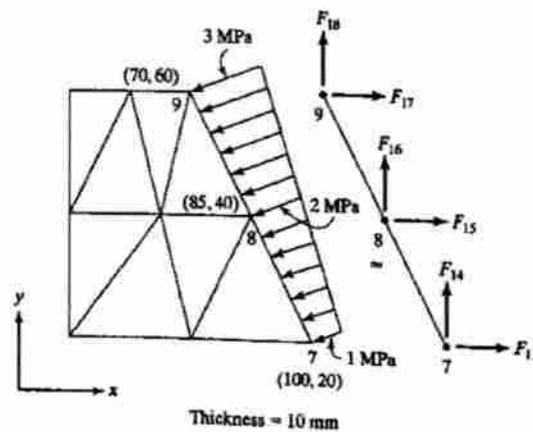

Figure 4
13. A). A two-dimensional plate is shown in figure 4. Determine the equivalent point loads at nodes 7, 8 and 9 for the linearly distributed pressure load acting on the edge 7-8-9. 10M